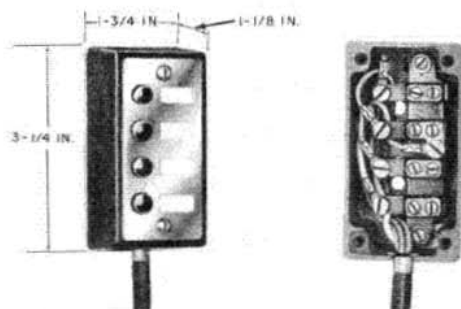

Fig. 1— $\Phi$ 549A (MD) or 549B (MD) Key (4 Pushbuttons)  $\Phi$
- (a) 549A-, B-, C-, and D-type (MD) keys (Fig. 1 and 2):